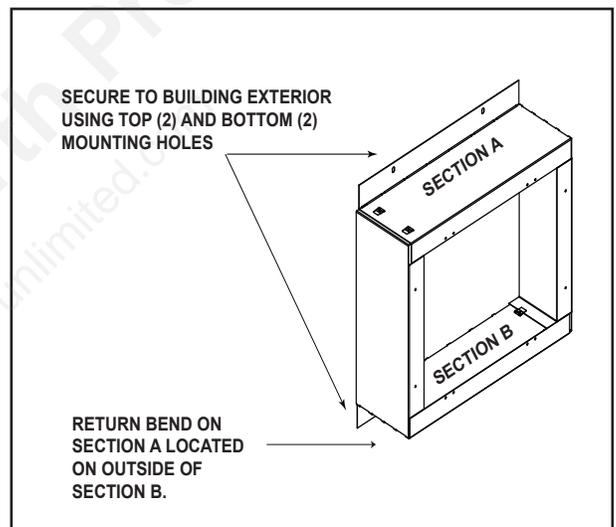

Figure 3.20 BEK Assembled
12. Use the supplied screws to assemble the box as shown in Figure 3.20. The return bend on section A should be located on the outside of section B.